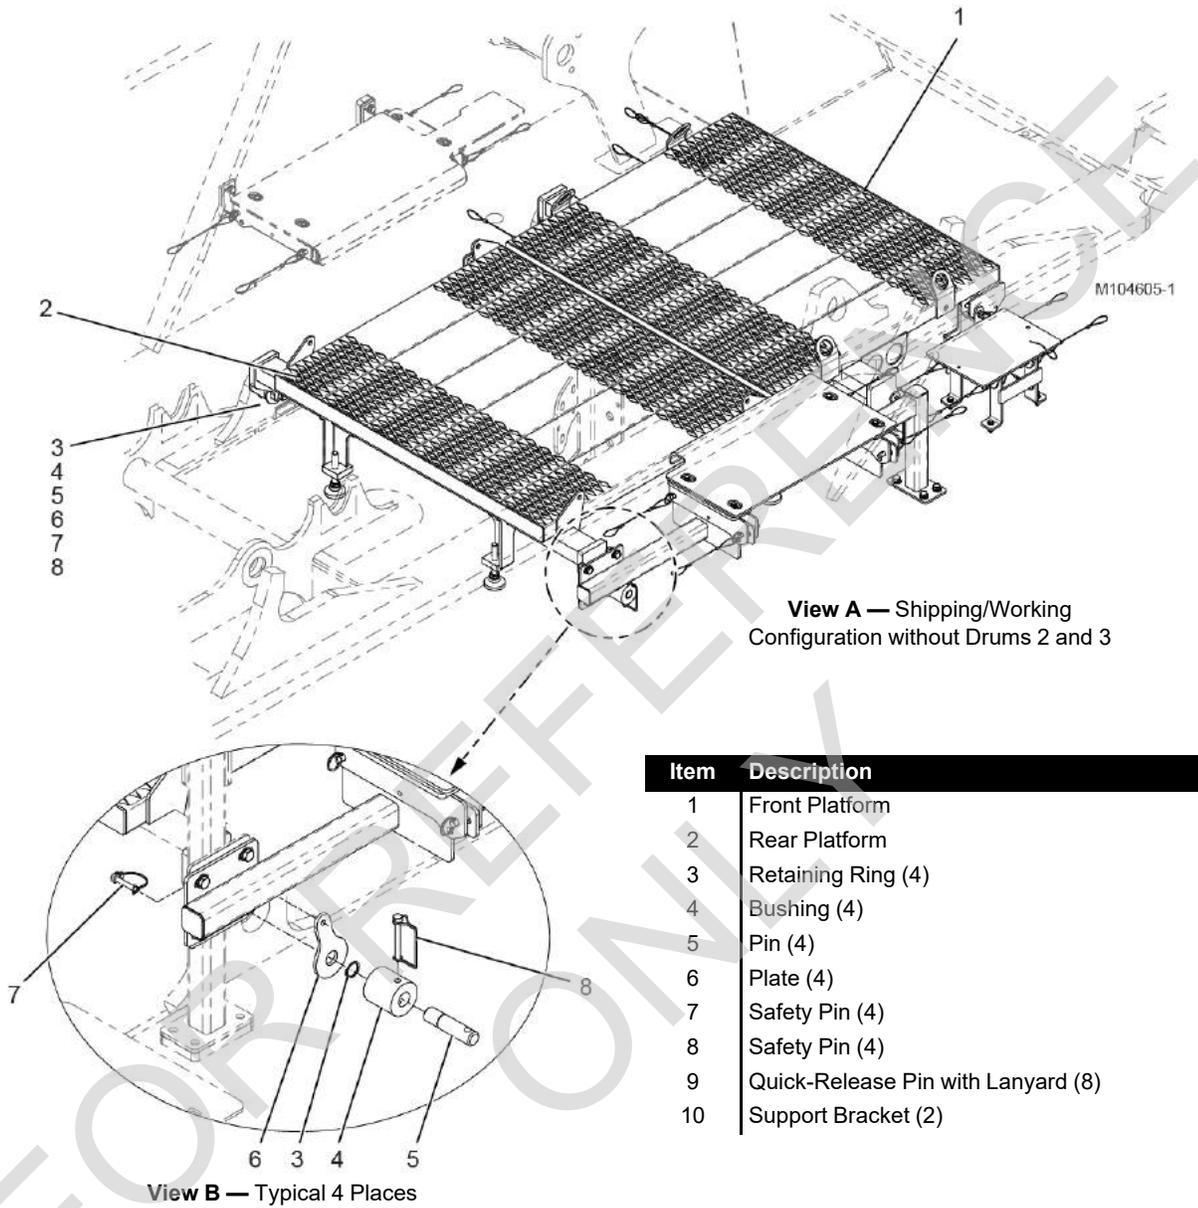

Figure 4-26
1. Store the front platform (1, View A, Figure 4-26) as shown in View C, Figure 4-26.
Both platforms (1 and 2, View A, Figure 4-26) must be removed and stored as shown in View D, Figure 4-26.
Figure 4-26 continued